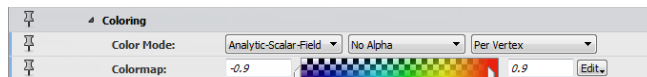

Figure 7.47: Parameters modified in the *Line Set View* module for coloring the tubes.
- Use the **Colormap** port to change colormap and data range. See Figure 7.47 for more details about the parameters to modify.